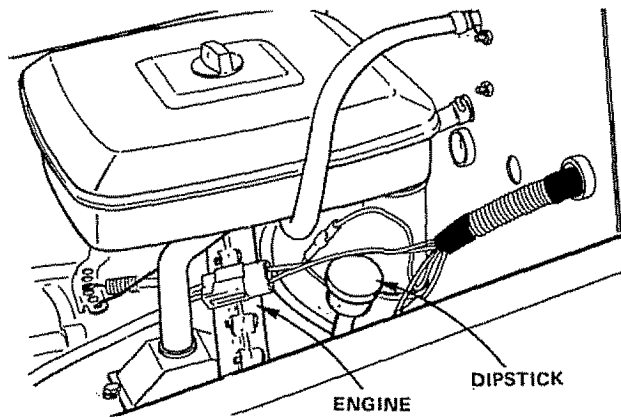

FIGURE 7
1. This engine has been shipped filled with oil. Check Engine Oil Level with Tractor on level ground. Wipe Dipstick (Fig. 7) clean, screw it in tight for a few seconds, remove and read Oil Level. If necessary, add Oil until "FULL" mark is reached.